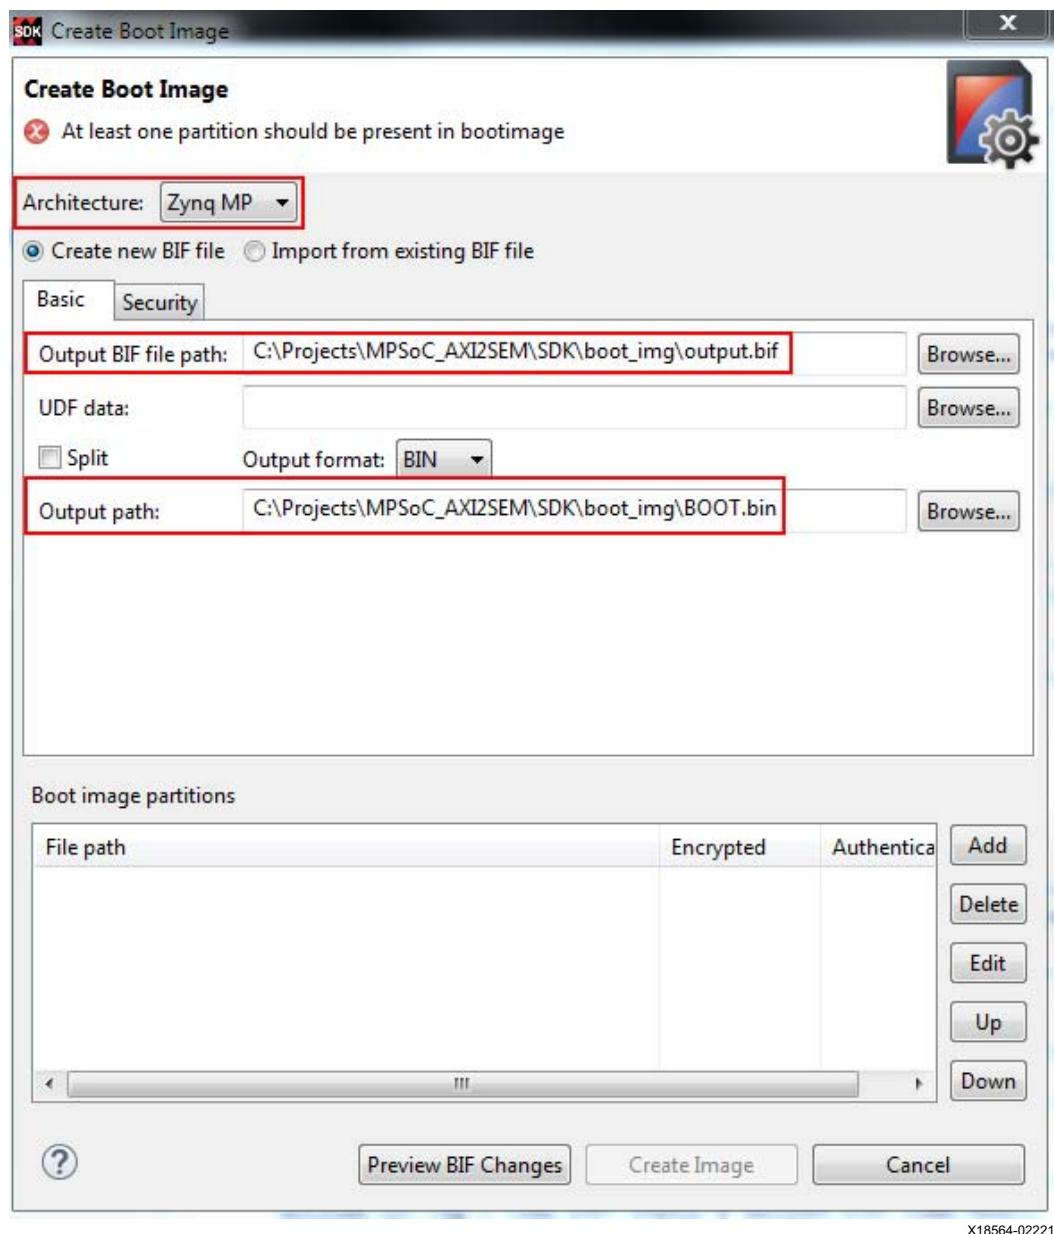

Figure 16: Create Boot Image
- a. Verify the Output path is the same path. See Figure 16.